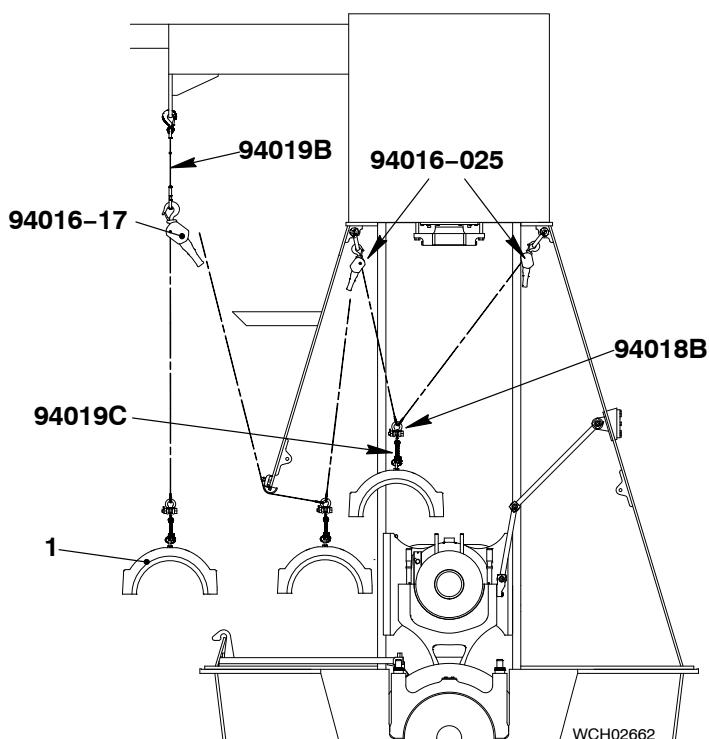

Fig. 4
- 10) Attach the chain (94019B, Fig. 4) to the gallery.
- 15) Operate the manual ratchets (94016-017, 94016-025) to move the bearing cover (1) to the fuel side.
- 16) Lower the bearing cover (1) on to an applicable surface.
- 17) If necessary, remove the chain (94019C) from the bearing cover (1).